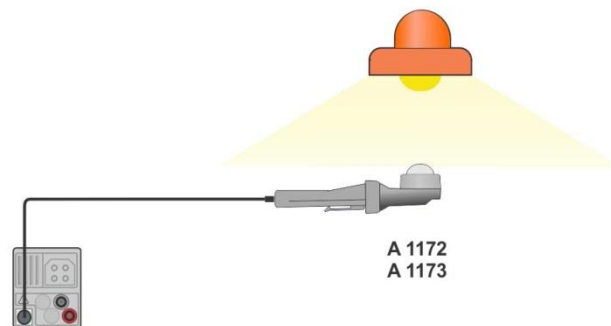

Figure 7.82: LUXmeter probe positioning
- › Take the position of LUXmeter probe, see **Figure 7.82**.